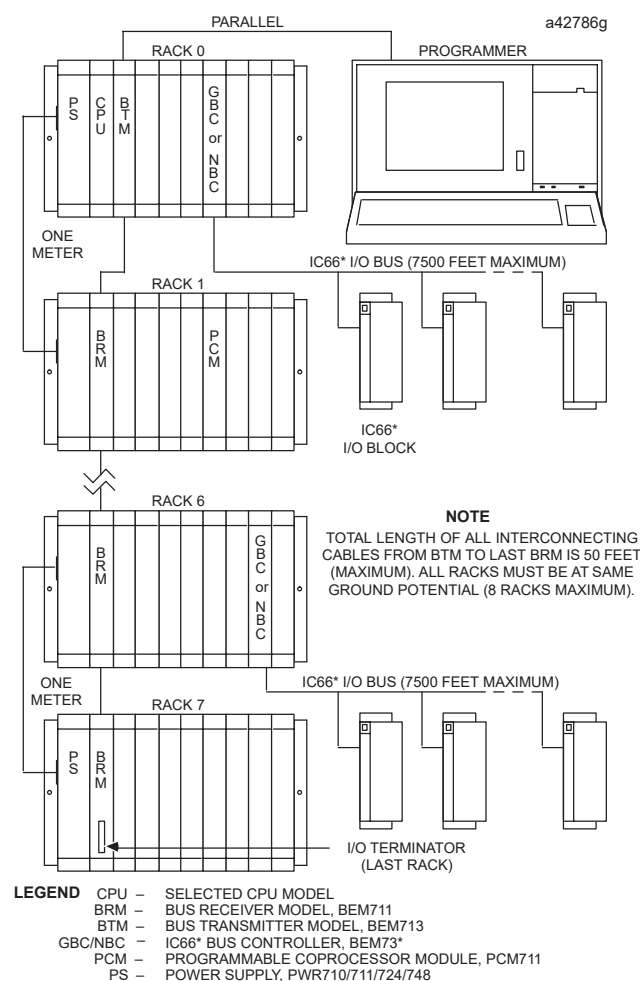

Figure 1. Typical PLC System Diagram
- Install in slot 1 of rack 0. (See Figure 1)
For a parallel interface (MS-DOS programmer only) the programmer is connected to the top port connector on the Bus Transmitter Module (IC697BEM713) as shown in Figure 1. Consult Reference 2 for a description of programming functions.